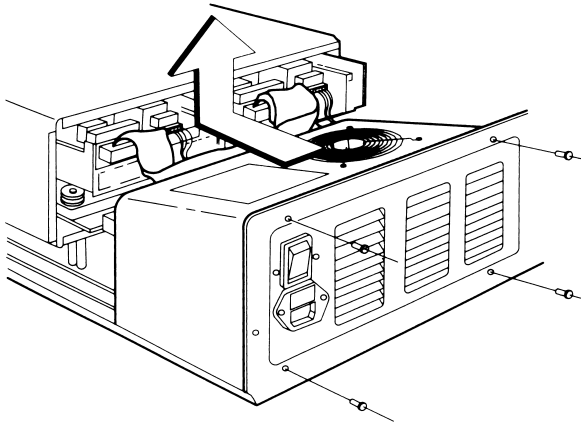

Figure 7-7. Removing the Power Supply Assembly.
3. Remove the four screws that secure the power supply assembly to the chassis (Figure 7-7).
4. Slide the power supply 1/2 inch to 1 inch toward the drive housing (Figure 7-7). Be sure to clear the tabs on the bottom of the chassis. These tabs hold the power supply assembly in place.